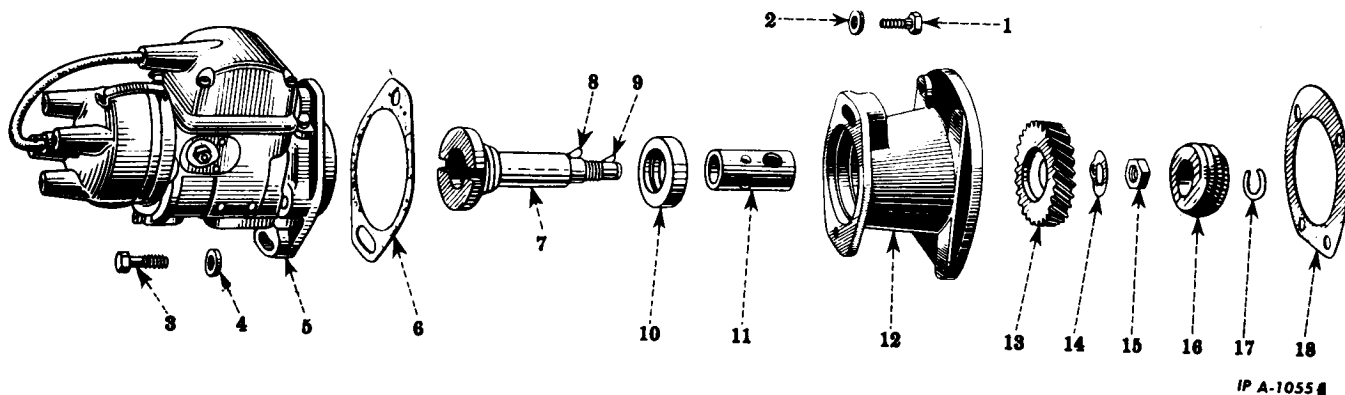

Fig. 2 - Magneto Mounting Bracket Components.
Remove the magneto (5, Fig. 2) and gasket (6) from the bracket (12). Some engines are equipped with a service meter drive gear. On these units the drive gear (16) and retainer (17) will have to be removed. Bend the nut lock (14) back and remove the nut (15) and lock. Press the shaft (7) out of the gear (13) or pull the gear from the shaft. Remove the keys (8 and 9) from the shaft. The shaft can now be removed. The bushing (11) and seal (10) (if so equipped) should not be removed unless it is necessary to replace them, in which case they can be pressed out.
(Refer to Fig. 2)